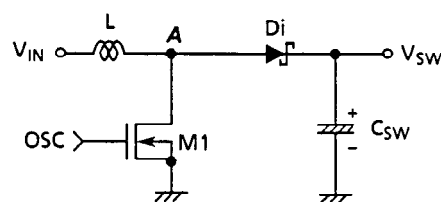

Figure 10 Switching regulator
Figure 10 shows a circuit diagram of the switching regulator. The switching regulator consists of the switching transistor (M1), the CR oscillation circuit, and the Schottky diode. The CR oscillation circuit turns M1 on and off. Energy is accumulated in the inductor (L) while M1 is on (t_{ON}). When M1 is turned off, the energy is fed to the capacitor (C_{SW}) of V_{SW} through the diode (Di). For details, see Section 5.